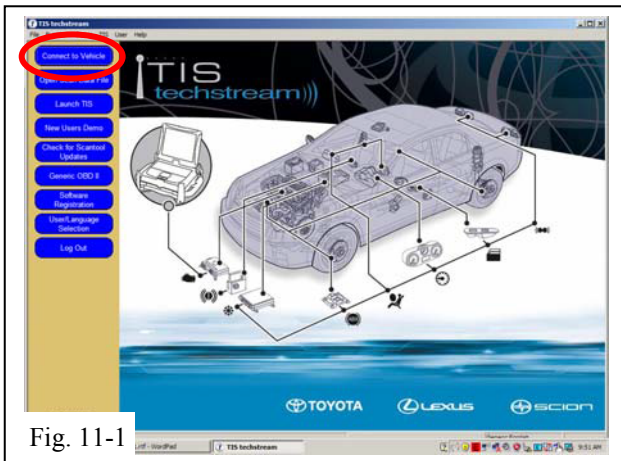

Fig. 11-1
- Click “Connect to Vehicle” button. (Fig. 11-1)